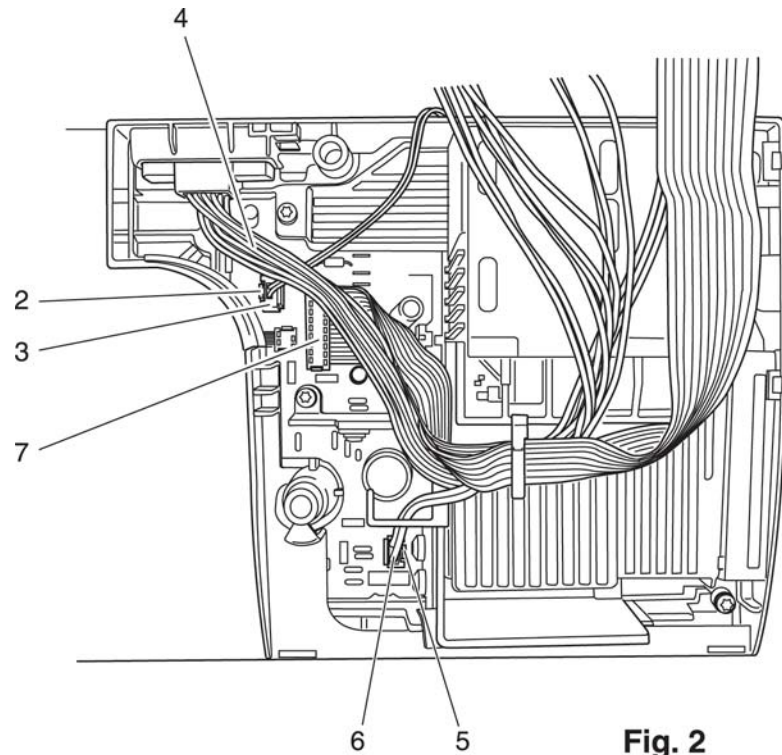

Fig. 2
- Raise latch 2 only 1 to 2 mm (fig. 2).